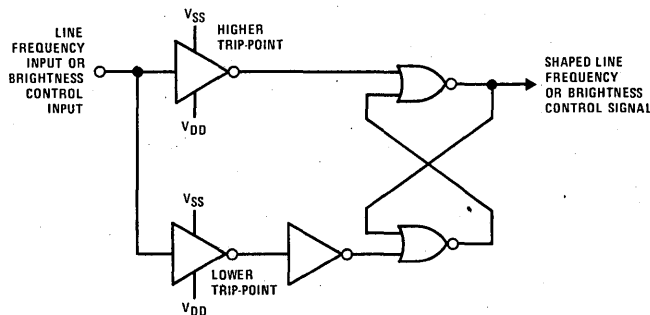
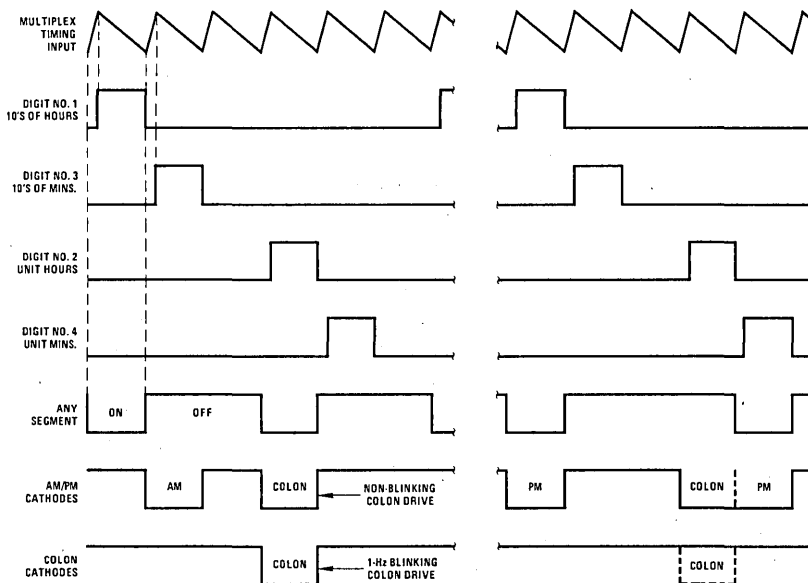
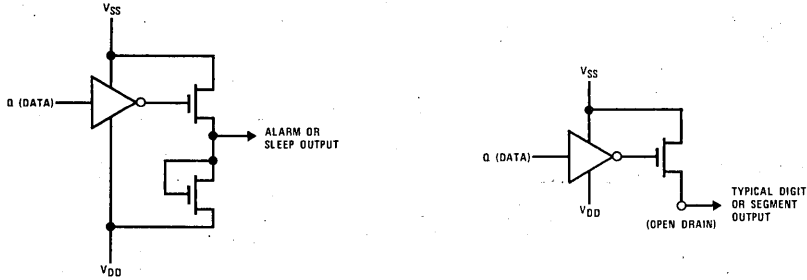
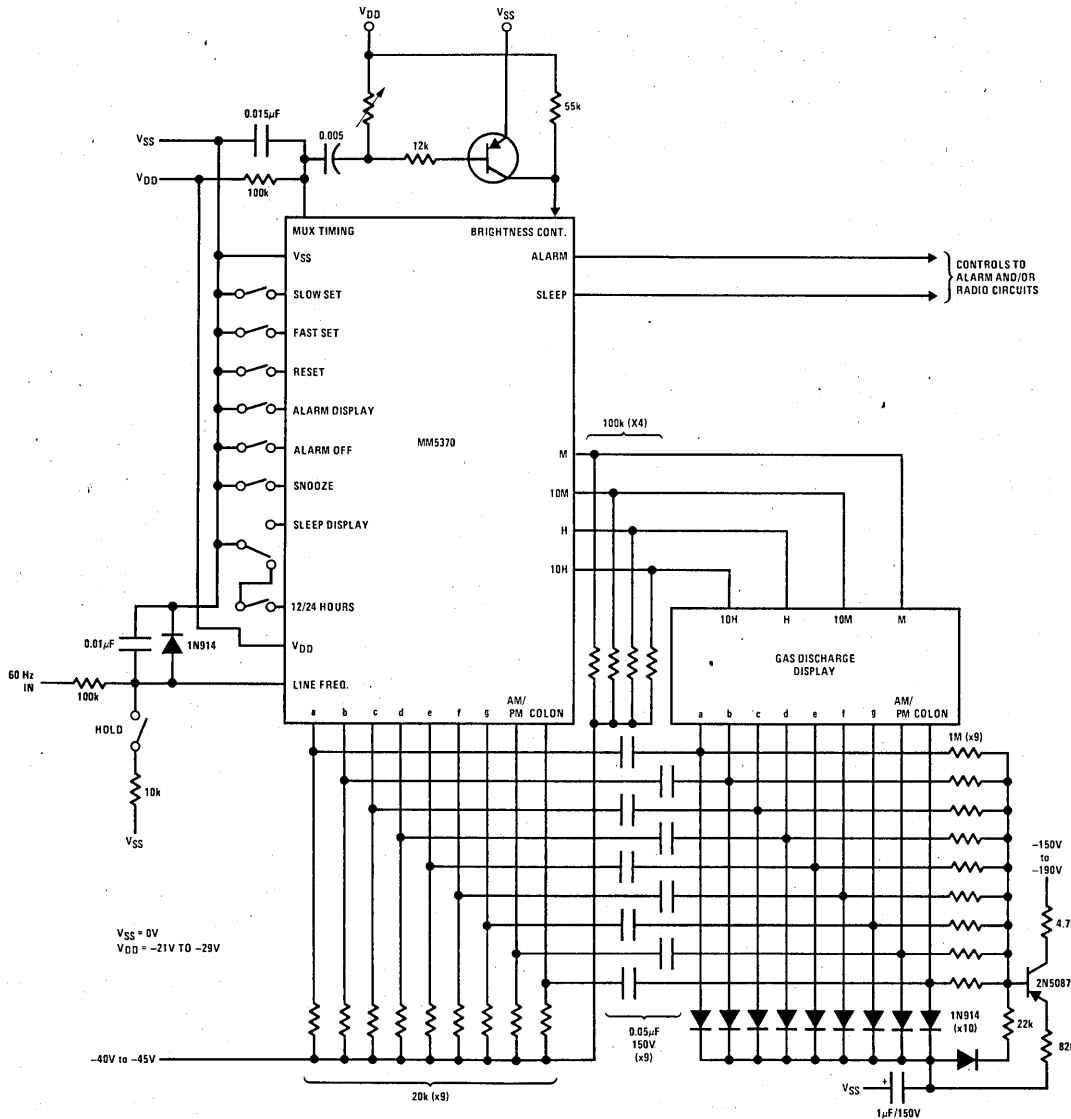

FIGURE 2. 60 Hz (or 50 Hz) Input (or Brightness Control Input) Shaping Circuit
FIGURE 3. Output Timing Diagram
FIGURE 7. Output Circuits
FIGURE 8. Recommended Application
**Line Frequency Input (pin 12):** A shaping circuit is provided to square the 60 Hz (MM5370) or 50 Hz (MM5371) input. This circuit allows use of a sine wave input. The Schmitt Trigger shaper (Figure 2) is designed to provide approximately 6V of hysteresis. A simple RC filter, such as shown in Figure 8, should be used to remove possible line-voltage transients that could cause the clock to gain time or damage the device. The shaper output drives a counter chain which performs the time-keeping function. A prescale counter divides the line input frequency to obtain a 1 pps timebase.
**Time Setting Inputs (pins 10 and 11):** Both fast and slow setting inputs are provided. These inputs are applied either singly or in combination to obtain the control functions listed in Table II. Again, internal pull-down depletion loads are provided; application of  $V_{SS}$  to these pins effects the control functions. Note that the control functions proper are determined by the selected display mode. An optional hold-time control function can be obtained as shown in Figure 8.
**12 or 24-Hour Select Input (pin 13):** By leaving this pin unconnected, the clock is programmed to provide a 12-hour display format. This format provides for zero-blanking the most significant display digit (ten's of hours). An internal pull-down depletion load is again provided; connecting this pin to  $V_{SS}$  programs the 24-hour display format. (See Figure 8).
When driving gas discharge displays which enclose more than one digit in a common gas envelope, it is necessary to either (1) inhibit the segment drive voltage(s) for a short time during inter-digit transitions, or (2) avoid physically adjacent inter-digit transitions. The MM5370 and MM5371 clocks utilize an interlaced output sequence to eliminate the need for inter-digit blanking circuitry and to prevent display arcing problems. The digit sequence is: (1) digit no. 1 (ten's of hours), (2) digit no. 3 (ten's of minutes), (3) blank for one digit time, (4) digit no. 2 (unit hours), (5) digit no. 4 (unit minutes), (6) blank for one digit time, etc. The two blanking intervals are provided to recharge level-translating capacitors located in the display segment drive lines (see Figure 8). Both segment data and digit enables are blanked. Figure 3 is a timing diagram which illustrates output timing.
**Output Circuits:** All display output drivers are open-drain devices with sources common to  $V_{SS}$  (pin 5), see Figure 7. Figure 8 illustrates interfacing the clock outputs and a gas discharge display.
**Brightness Control Input (pin 15):** Since display brightness is a function of cathode segment current, a capability of interrupting this current for a variable percentage of the digit interval results in a brightness control. Connecting this Schmitt Trigger input (see Figure 2) to  $V_{DD}$  places all cathode segment drive voltages at the high level, thereby inhibiting the display. Conversely,  $V_{SS}$  applied to this input enables the cathode segment drives. The Schmitt Trigger shaper provides approximately 1V of hysteresis, which facilitates using a waveform such as a sawtooth with a variable slope (or variable dc component) to effect the shaper output duty cycle and, therefore, the display brightness. The control waveform should be derived from the multiplex frequency; a circuit is included in Figure 8.
**Alarm Operation and Output (pin 2):** An alarm comparator (see Figure 7) senses coincidence between the alarm counters (the alarm setting) and the time counters (real time). The comparator output is used to set a latch in the alarm and sleep circuits. This latch enables the alarm output driver (see Figure 7), the output of which is used to control the external alarm sound generator. The alarm latch remains set for 59 minutes, during which the alarm will sound if the latch output is not
sleep display mode (see Table I) and setting the desired time interval (see Table II). This automatically results in a current-source output via pin 4 which can be used to turn on a radio. When the sleep counter, which counts downwards, reaches 00 minutes a latch is reset and the sleep output drive current is removed, thereby turning off the radio. This turn off also may be manually controlled (at any time in the count-down) by a momentary  $V_{SS}$  connection to the snooze input (pin 1). This input is also returned to  $V_{DD}$  by a depletion load. The output circuitry is the same as the alarm output (see Figure 7).
**AM/PM Cathode Output (pin 16):** Current with this writing, gas-discharge clock displays are available with two types of AM/PM indications, (1) AM and PM indicators common to digits 3 and 4 respectively; and (2) a PM only indication common to digit 1. Figure 3 illustrates an AM/PM cathode drive output that is compatible with both display types. Note that this same output also provides a non-blinking (steady) colon drive common to digit two. Power failure is shown by turning off this output at a 1 Hz rate.
**Colon Cathode Output (pin 17):** As an optional indication of clock operation, some users may prefer to display a 1 Hz activity. As shown in Figure 3, a cathode drive output is provided to facilitate a blinking colon.